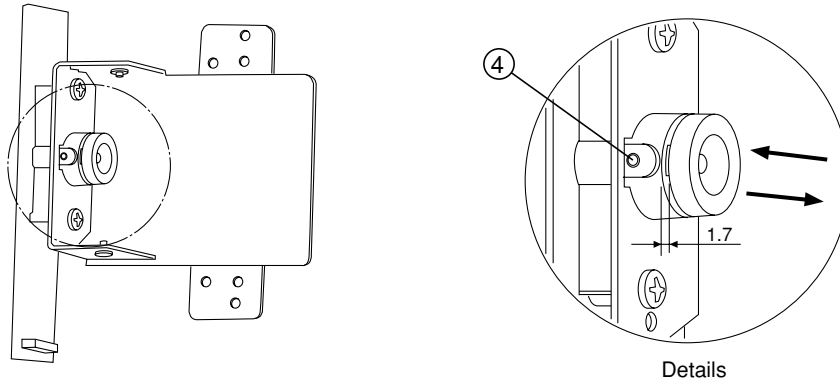

Fig.1
3) Focus adjustment of Lens Unit (See Figure 1.)